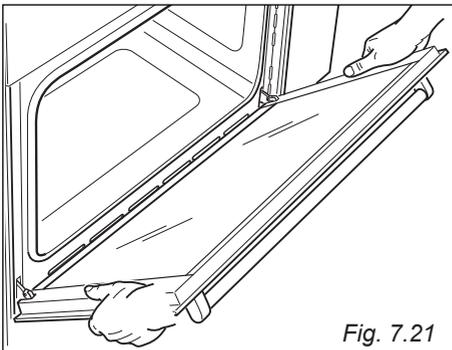

Fig. 7.21
- Hold the door as shown in fig. 7.21.